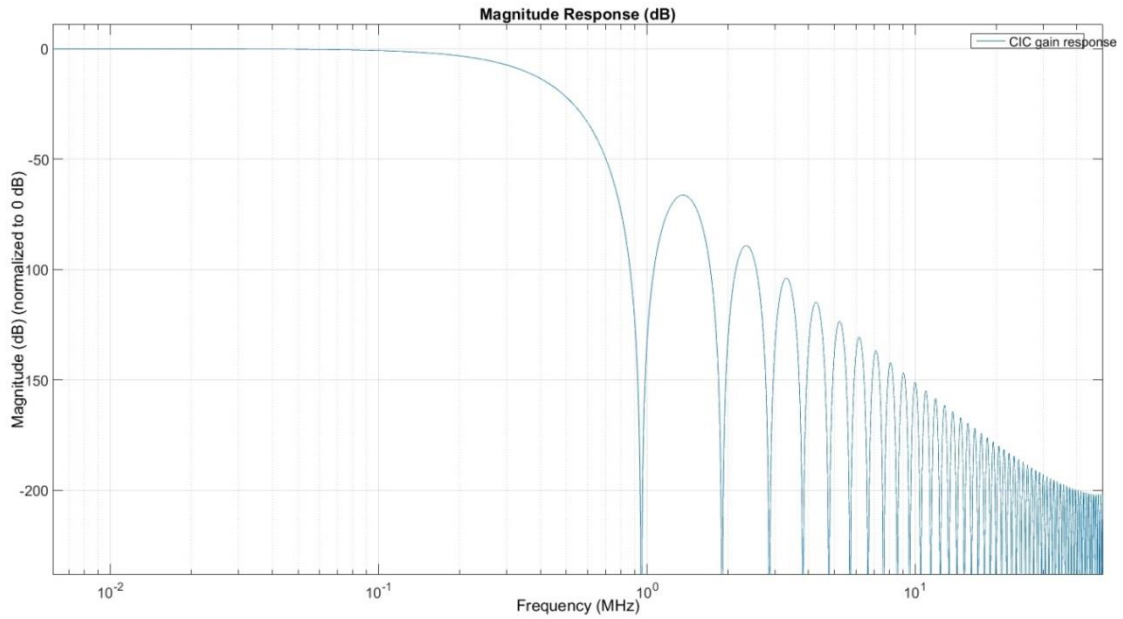

Figure 3: Gain Bode diagram of CIC filter
- First, the stop band ripple, which is above the -100 dB stop-band specification, will bring frequency aliases into the pass-band of the final filter if left as it is (Figure 3).